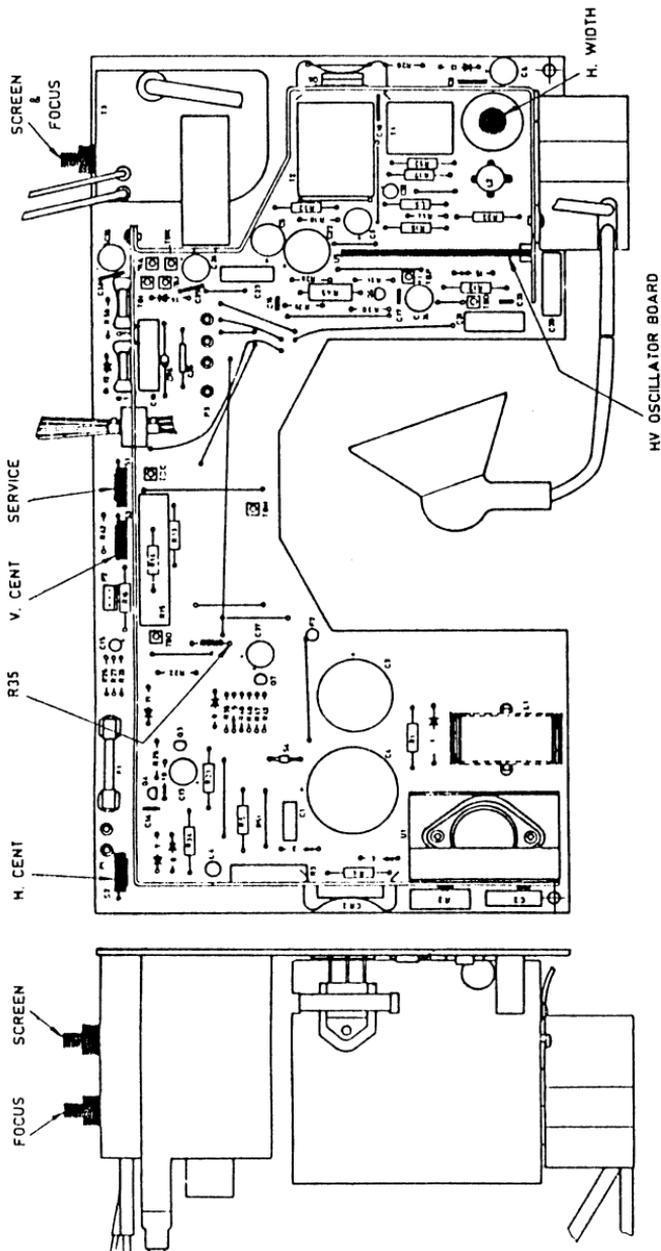

Figure 5.3 Color CRT deflection board
1. Display a white test grid, refer to Figures 5.3 and 5.4.
1. Display an all-white picture, refer to Figure 5.3.
1. Display a white test grid, refer to Figure 5.3.
1. Display an all-black picture, refer to Figures 5.3 and 5.5.
1. Display a full CRT screen (25 lines, 80 characters per line) of H's, refer to Figure 5.3.